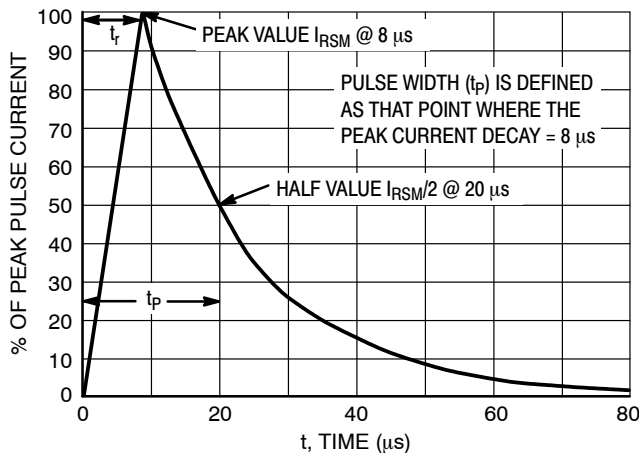
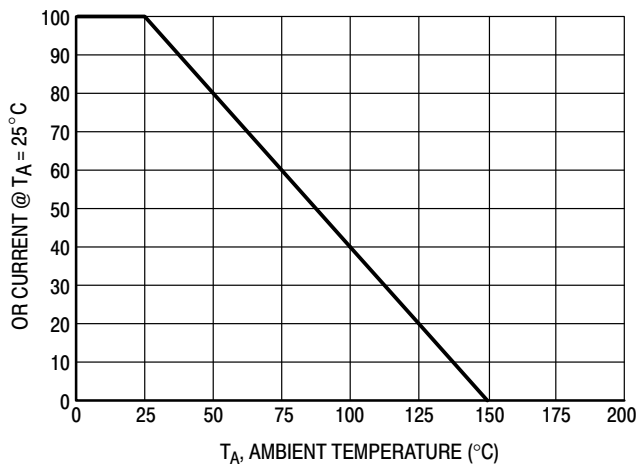

Figure 5. 8 X 20 μs Pulse Waveform
Figure 6. Pulse Derating Curve
2. Non-repetitive current per Figure 5. Derate per Figure 6.